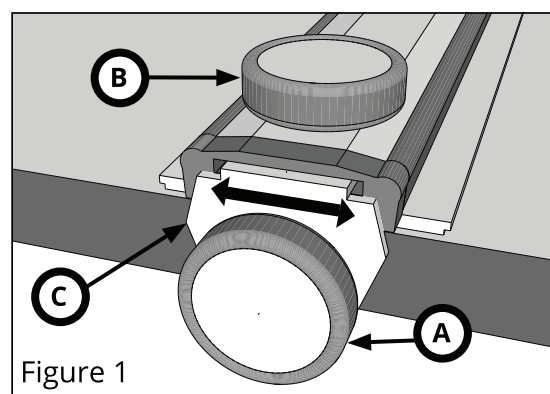

Figure 1
The PXB is shipped with the straightedge locked in the middle of the board. To release the straightedge, loosen both of the brake knobs (A). To lock the straightedge in any position on the board, tighten the brake knobs gently. (see Figure 1)
- 1 Release brake knobs (A). (see Figure 1)
- 2 Loosen (don't unscrew completely) the fine tune parallel knob (B) on either side of the straightedge.
- 3 Adjust the position of the end bracket (C) until the straightedge is parallel with your work.
- 1 Make sure the fine tune parallel knobs on both sides are tight (B). (see Figure 1)